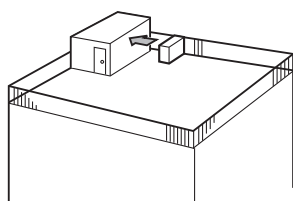

Fig. 2-3
- ① Face the air outlet towards the nearest available wall about 500 mm away from the wall. (Fig. 2-3)